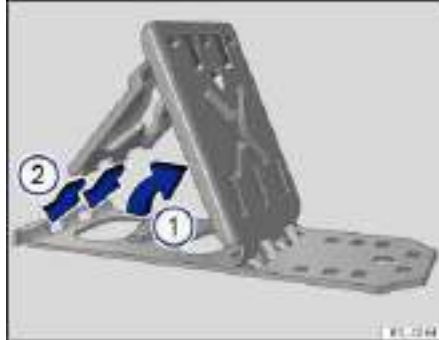

Fig. 187 Unfolding the folding chock.
- Raise the support plate ⇒ fig. 187 \(1\).